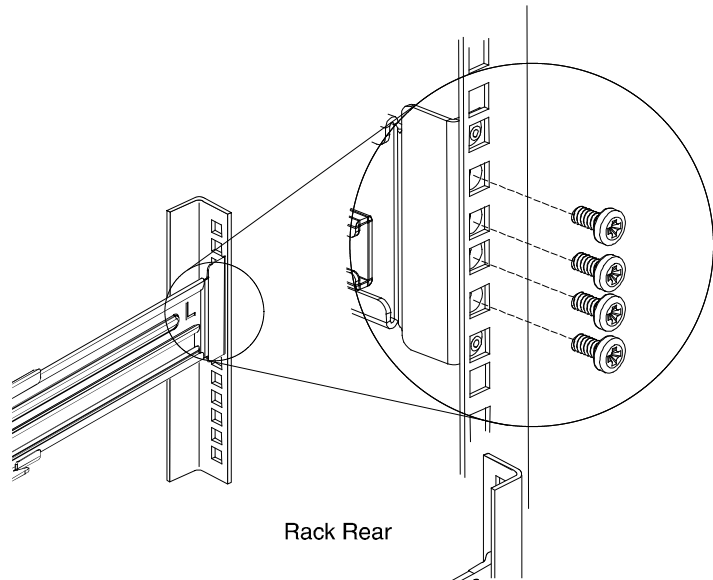

Figure 9. Attaching the Rears of the Rails
- Secure each rail to the rear of the rack with four M5 × 16 mm screws, as shown in Figure 9.